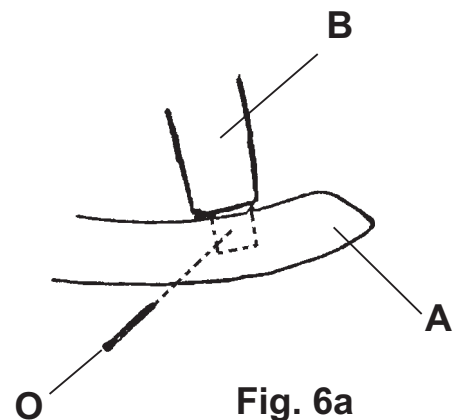

Fig. 6a
With the rocker laying on its side, hammer a Brad (O) through the inner edge of the rocker runners into the leg chucks. See Figure 6a.